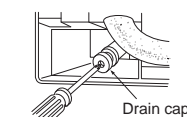

Fig. 3
- Put the drain cap into the section to which the drain hose is to be attached at the rear of the indoor unit. (Fig. 3)